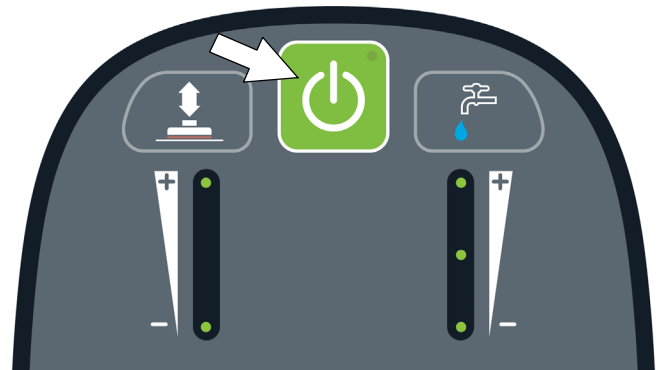

FIG. 38
5. Press the 1-STEP button to activate the scrub function (Figure 38). The scrub head will lower to floor.